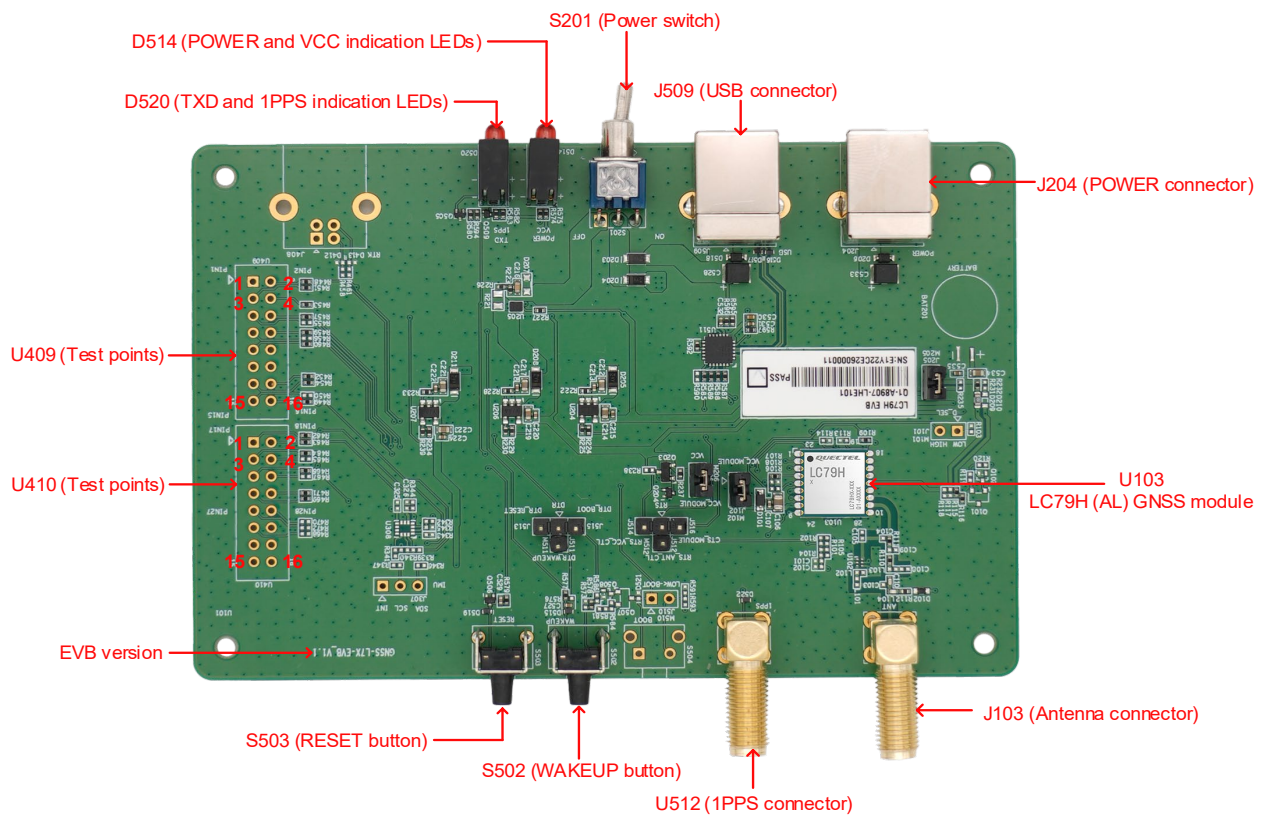

Figure 3: EVB Top View
1. The serial numbers of U409 and U410 test points are shown in red text in Figure 3: EVB Top View.